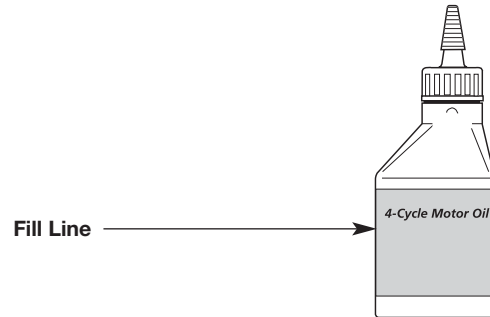

Fig. 22
**NOTE:** Use the empty oil bottle saved from the initial use to measure the correct amount of oil. Fill the oil bottle to the 2.03 fl. oz (60 ml) fill line indicated on the back of the bottle (Fig. 22).